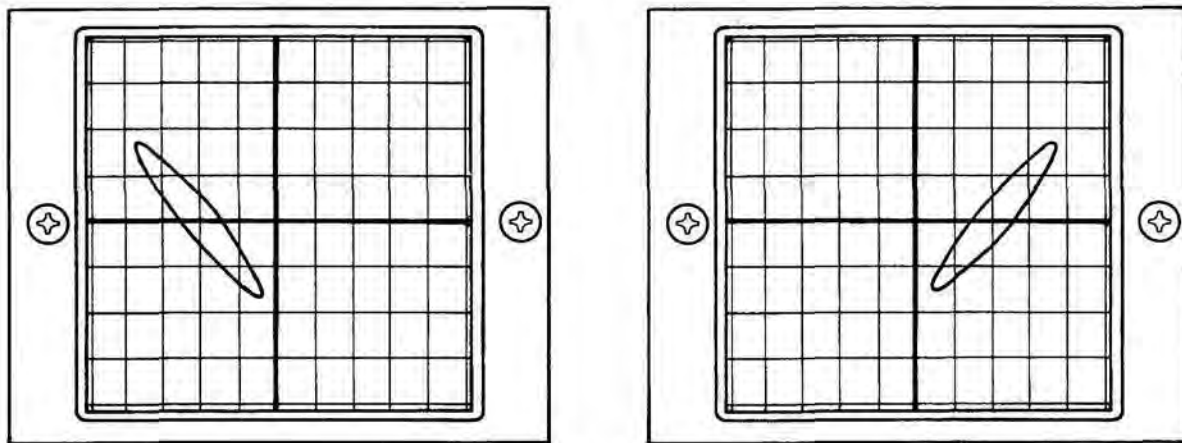

Figure 3-10 First Order Lissajou Figure
22. Set AM/FM Switch (21) to "FM" and verify that a first order Lissajou figure is present on CRT Display (36). (See Figure 3-10.)